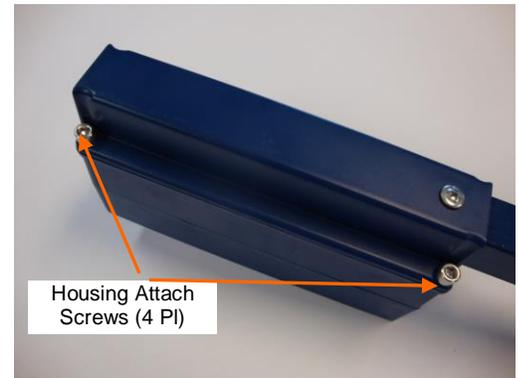

Figure 9
1. Using a 3/16 inch Allen-type hex wrench, remove the four screws attaching the module housing to the 1 in. x 1 in. fiberglass tube. (see figure 9)